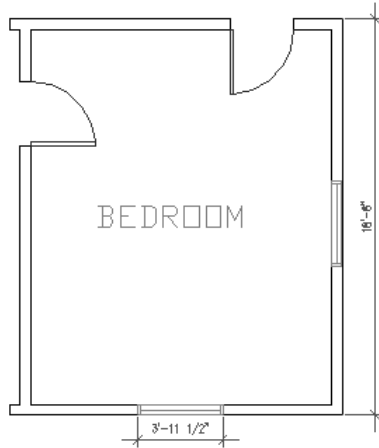

Figure 14-4: The bedroom with two linear dimensions.
6. Save your drawing. It should look like Figure 14-4.